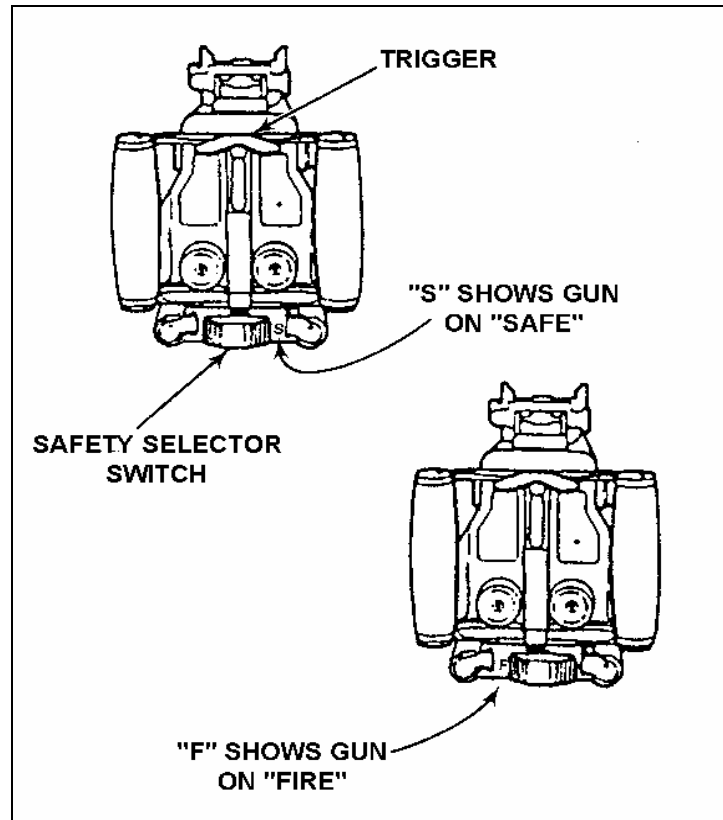

Figure 2-6. S (SAFE) position.
- (1) Move the safety switch to S (SAFE) (Figure 2-6).
- (6) Inspect the chamber and bolt face to ensure that no live rounds are in the weapon.
- (7) Place the safety switch on F (FIRE) (Figure 2-6).
- (8) Maintain rearward pressure on the charging handle, press the trigger and ease the bolt forward.
- (9) Place the safety switch on S (SAFE).
- (1) Place the safety switch on S (SAFE) (Figure 2-6).
- (2) Open the top cover assembly.
- (3) Lower one or both charger handles.
- (4) Pull the charger handle slightly to the rear.
- (5) Allow sufficient space between the face of the bolt and the chamber to see both.
- (6) Check for live ammunition.
- (7) Ride the bolt forward.
- (8) Return the charger handle to its original upright position.